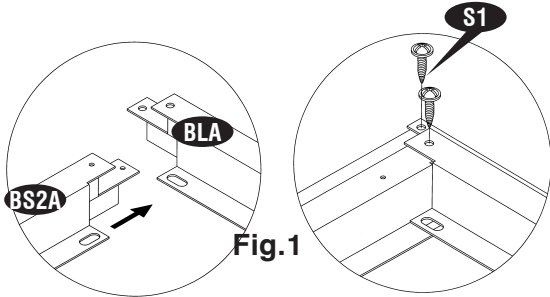

Fig.1
6. Place the base bar side assembly on left side. Insert the edge of (BS2A) into the back base bar (BLA) and secure with (S1) screws. See fig. 1 Place the base bar side assembly on right side. Insert the edge of (BS1A) into the back base bar (BRA) and secure with (S1) screws. See fig. 2